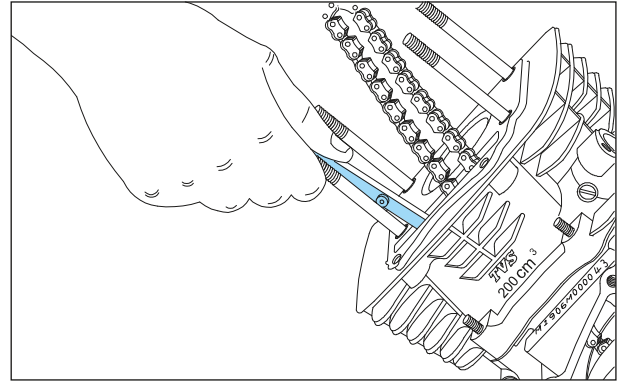

Fig. 3.66
- Pull out the guide cam chain from the cylinder block complete. (Fig. 3.66)